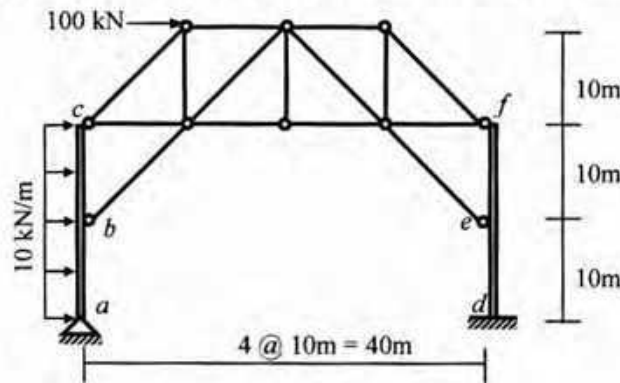

Fig. 3
- For the Bridge Portal loaded as shown in Fig. 3, use Portal Method (making reasonable assumptions to account for column support conditions) to draw the SFD and BMD of columns *abc* and *def*.
9. Calculate the allowable moment capacity of the beam section shown in Fig. 3.